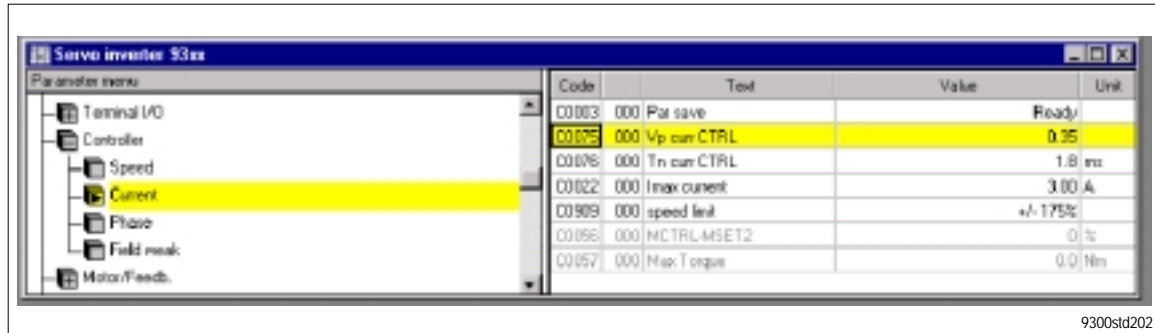

Fig. 5-2 Parameter menu for current controller adjustment
- The current controller is adjusted under codes C0075 ( $V_p$ ) and C0076 ( $T_r$ ). For this, call the parameter menu in Fig. 5-2.